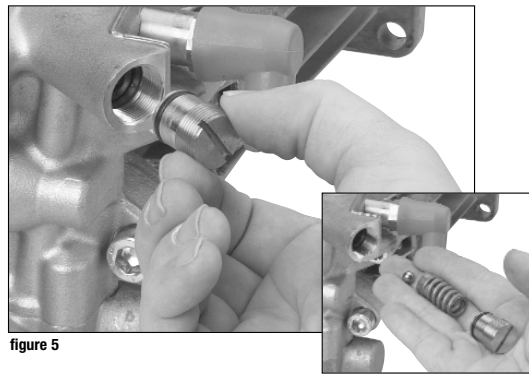

figure 5
1. Unscrew the safety relief valve screw cap. (figure 5)
2. Remove spring, valve seat and ball. (inset figure 5)